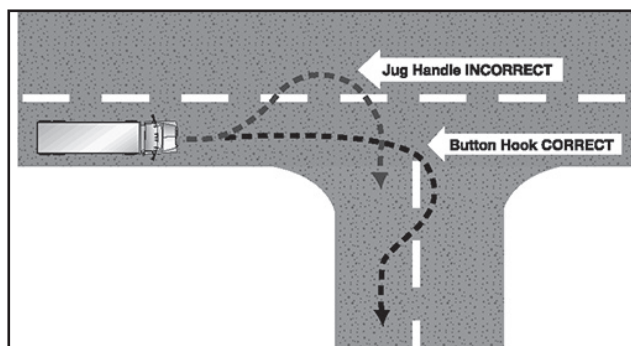

Figure 2.13
- If you must cross into the oncoming lane to make a turn, watch out for vehicles coming toward you. Give them room to go by or to stop. However, don't back up for them, because you might hit someone behind you. See *Figure 2.13*.